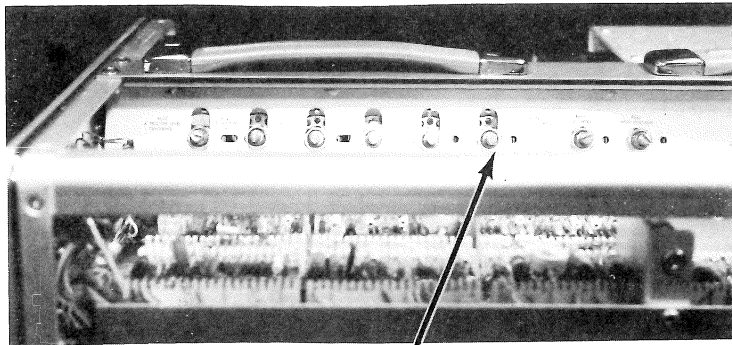

Figure 49 SWEEP MAG REGIS
4. Set SWEEP MAGNIFIER to X1 and adjust the SWEEP MAG REGIS (R569-See Figure 49) to position the middle 5 msec marker to the center of the graticule. (See Figure 50) Repeat steps 3 and 4 until there is no horizontal movement of the middle 5 msec marker while switching the SWEEP MAGNIFIER from X1 to X10.